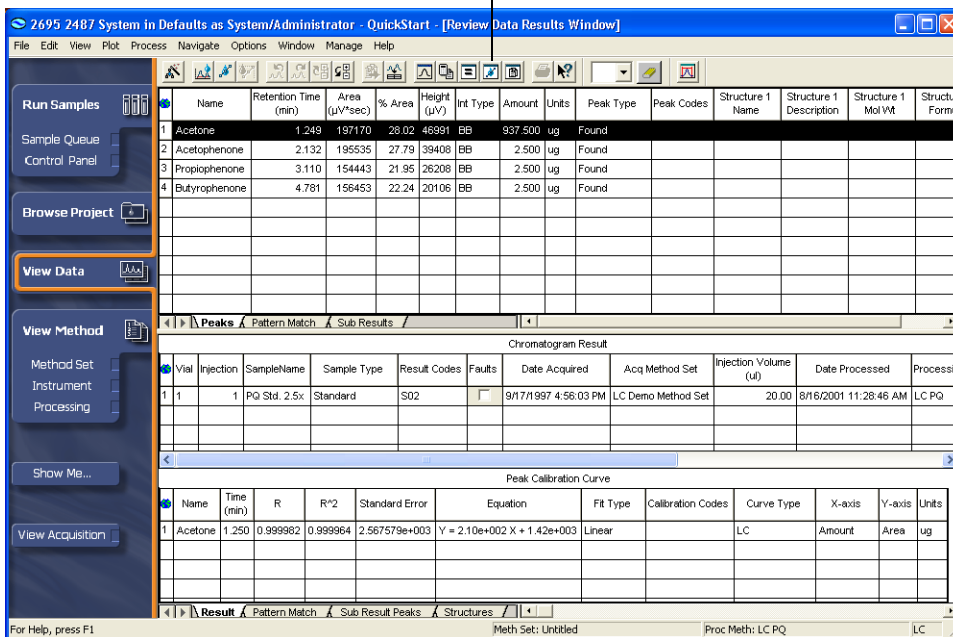

Figure 7-3 Results Window
- Click  (Results). The Results window appears (Figure 7-3). View any information that interests you, such as peak results, chromatogram results, or calibration curve results.